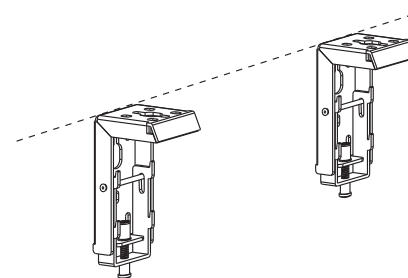

Figure 1
2. Mount the brackets onto the surface, ensuring it is level (tip: draw a erasable level line when mounting the brackets). See below for picture description (figure 1):